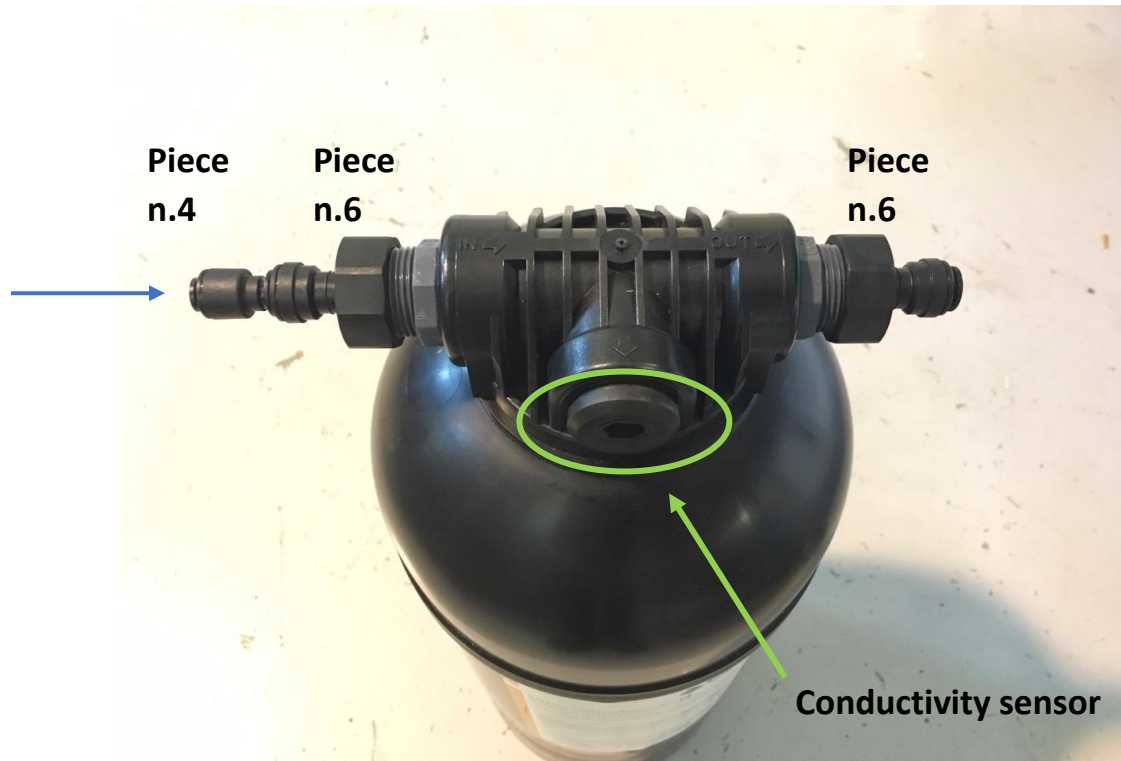

Figure 3: Resins bottle set up
- The “Uscita acqua osmotizzata” port is the port where pure water comes from: directly connect it to the resins bottle inlet. As shown in Figure 3.
Notice: In order to increase the Miniblock resins lifetime, if the machine has not been working for more than 2 weeks, purge the initial (first 10 minutes) pure water coming from Bonaqua 500. To do so, please disconnect the 6 mm Ø LLDPE pipe from the inlet of the resins (the blue arrow in Figure 3), turn on the Bonaqua 500 system, wait 10 minutes, turn off the system and connect everything as mentioned in “Water connection” paragraph. Now it is ready to be powered ON.